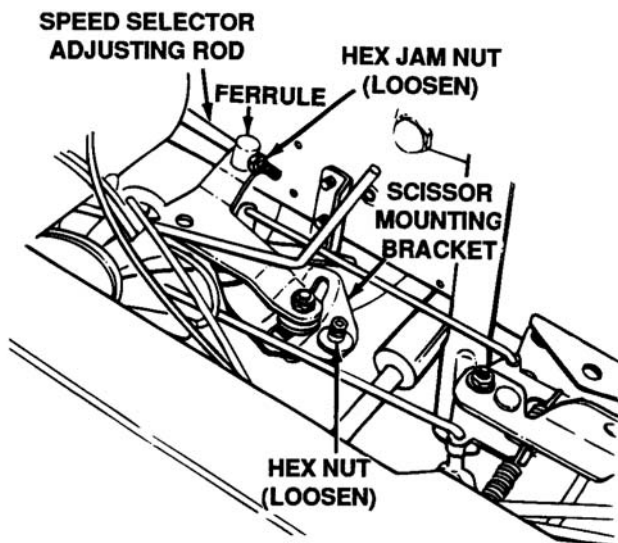

Figure 4-64. Adjusting Hydro-Gear Neutral Control
4. Loosen the hex nut on the scissor mounting bracket. See Figure 4-64.